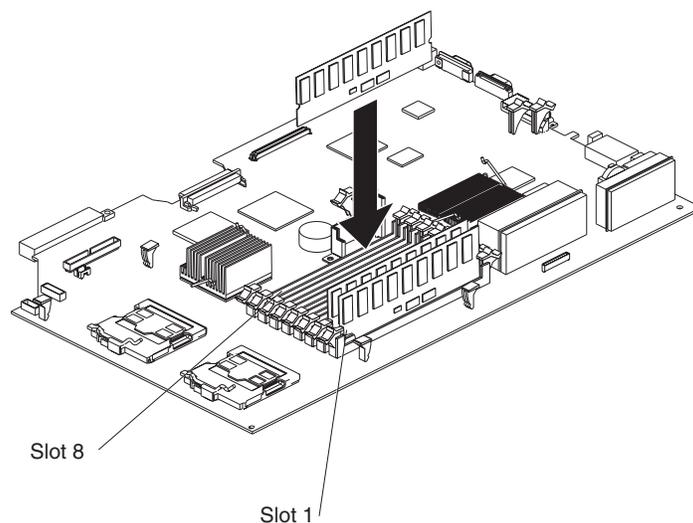

Figure 25. Memory module installation
- You can increase the amount of memory in the server by replacing them with higher-capacity DIMMs or installing an additional pair of DIMMs into the remaining slots. Figure 25 shows the memory slots on the system board.